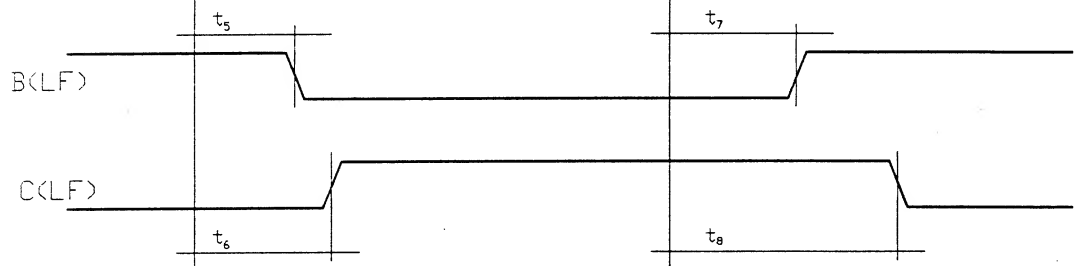

fig. 3b
- Press any key to abort the looping activity. Press F4 (1_fault) and measure t_5 , t_6 , t_7 , t_8 as indicated on figure 3b. Pressing any key aborts the looping activity.